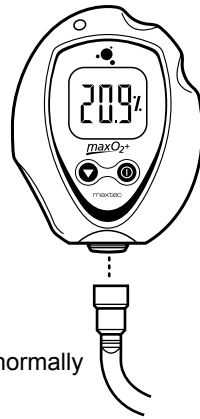

FIGURE 2
1. Connect the Tygon tubing to the bottom of the analyzer by threading the barbed adapter onto the oxygen sensor. (**figure 2**)